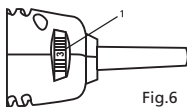

Fig.6
The speed of the tool can be adjusted to run the tool at speeds varying between 10,000 OPM and 18,000 OPM by rotating the speed control wheel (1) located toward the rear of the tool housing (Fig. 6).
3. Set the speed control wheel between 4 and MAX as outlined in Fig. 6.